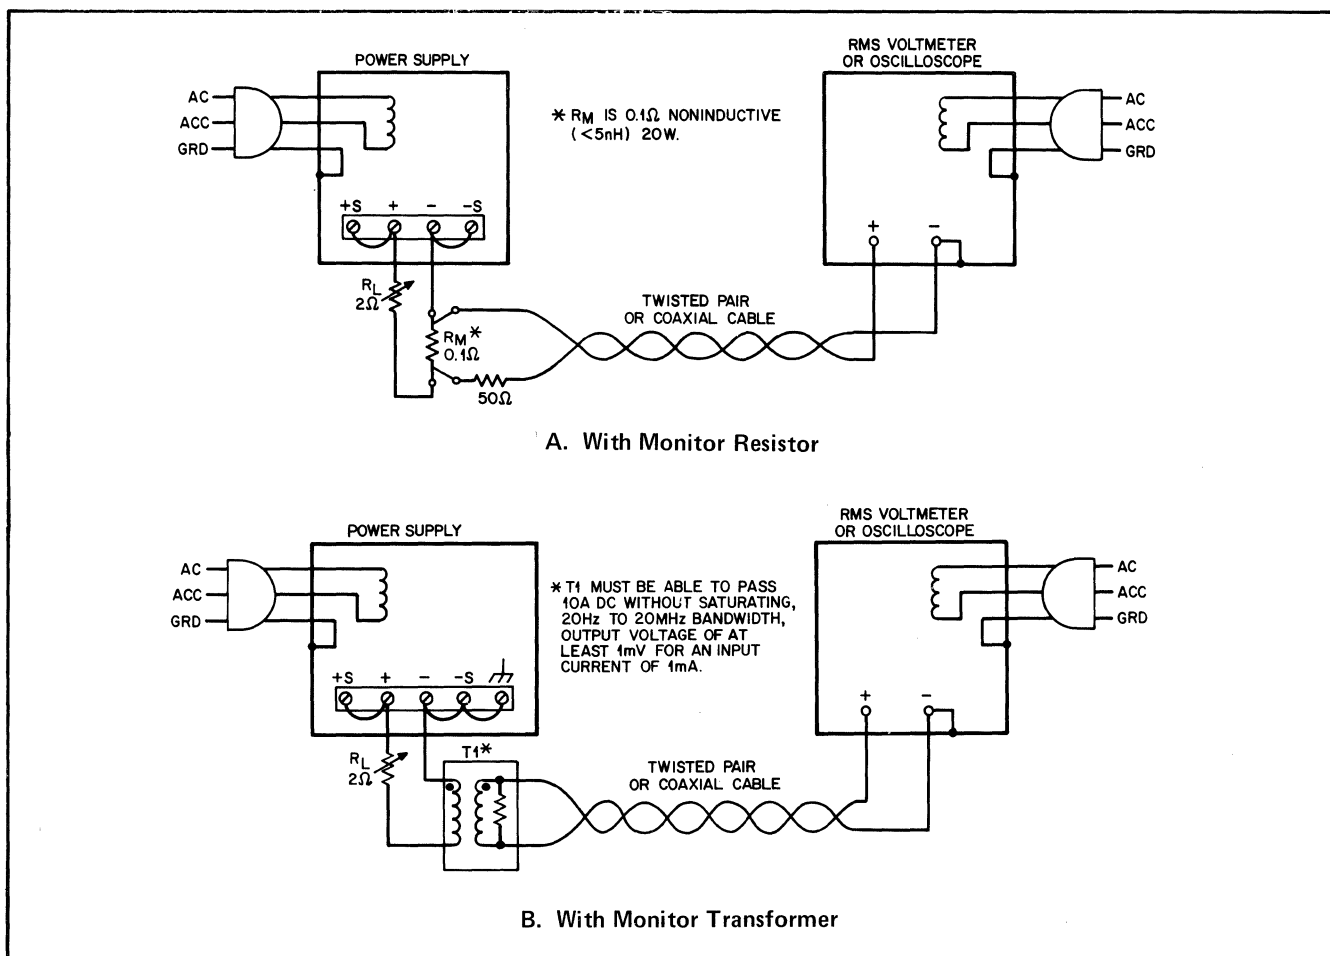

Figure 5-8. Constant-Current Ripple and Noise Measurement Test Setup
noise measurement also apply to the measurement of constant-current ripple and noise. Figure 5-8 shows two test setups that can be used when measuring the ripple and noise of a constant-current supply. Either test setup can be used depending on the availability of an appropriate monitoring resistor.
5-51 The current-monitoring resistor(R_M) in Figure 5-8 can be constructed of parallel-connected resistors. It must have very low inductance to prevent the high frequency components of CC ripple from causing a misleading voltage drop. A current probe/amplifier combination such as Tektronix P6302 probe and AM503 amplifier can be used for the current-monitoring transformer (T1) in Figure 5-8B.
- a. Connect oscilloscope or rms voltmeter as shown in Figure 5-8.